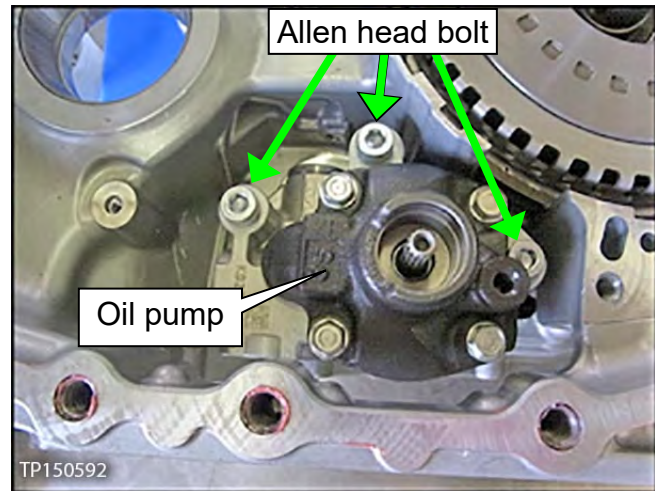

Figure 68
3. Install the new oil pump using the three (3) Allen™ head bolts (see Figure 68).